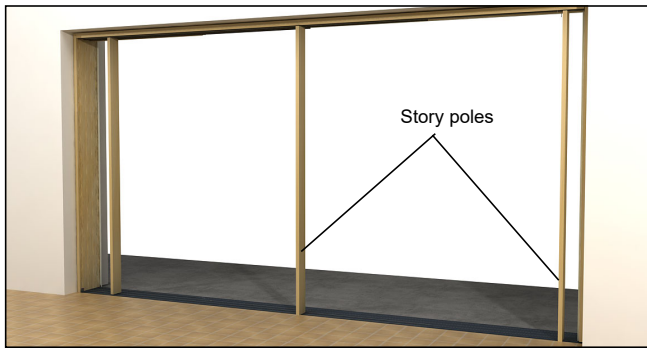

Figure 22
2. Support the head jamb in position with the story pole(s) at the center and appropriate intervals thereafter. See figure 22.
1. Raise and position the frame assembly within the opening on top of the sill end caps. Support the head jamb in position with the story pole(s) at the center and appropriate intervals thereafter. See figure 22.